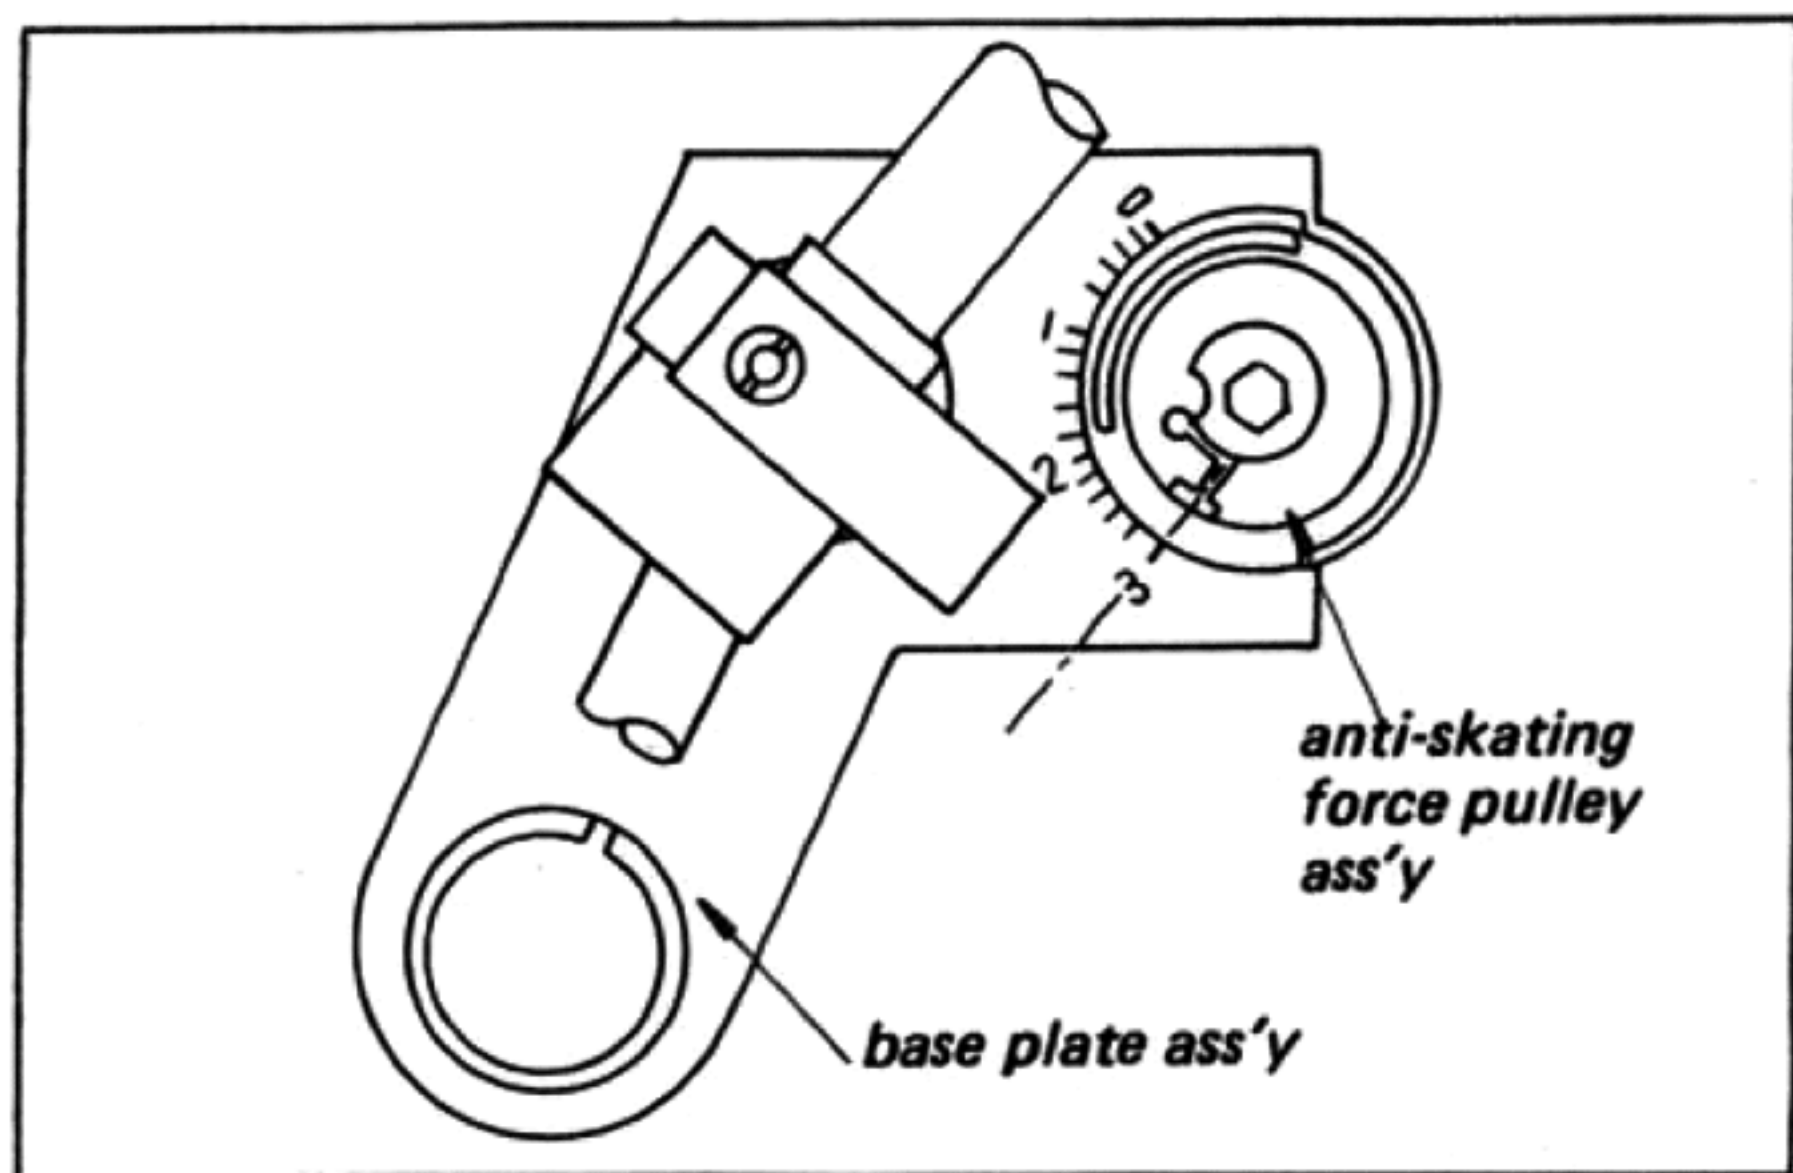

Fig. 2-19. Presetting of the pulley for calibration
8. Slightly loosen the pulley and set to the position as shown in Fig. 2-19.